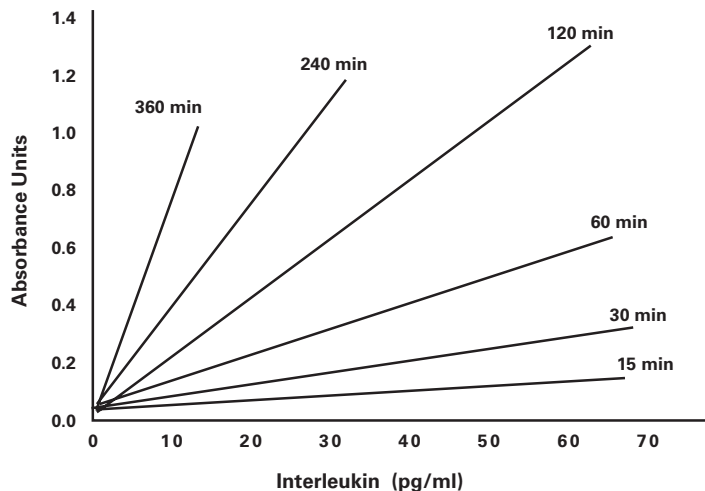

Figure 5. Standard curve at various development times
3. Read the plate at a wavelength between 405-420 nm. Once the S1 wells seem visibly yellow (0.3 A.U., ~20-30 minutes) it will be possible to determine the concentration of the relatively concentrated samples. Longer development times will be necessary to obtain an accurate plot for the lower range of the standard curve and statistically significant values for sample concentrations near the detection limit of the assay (~1.5 pg/ml). Standard curves at various development times are shown above in Figure 5.